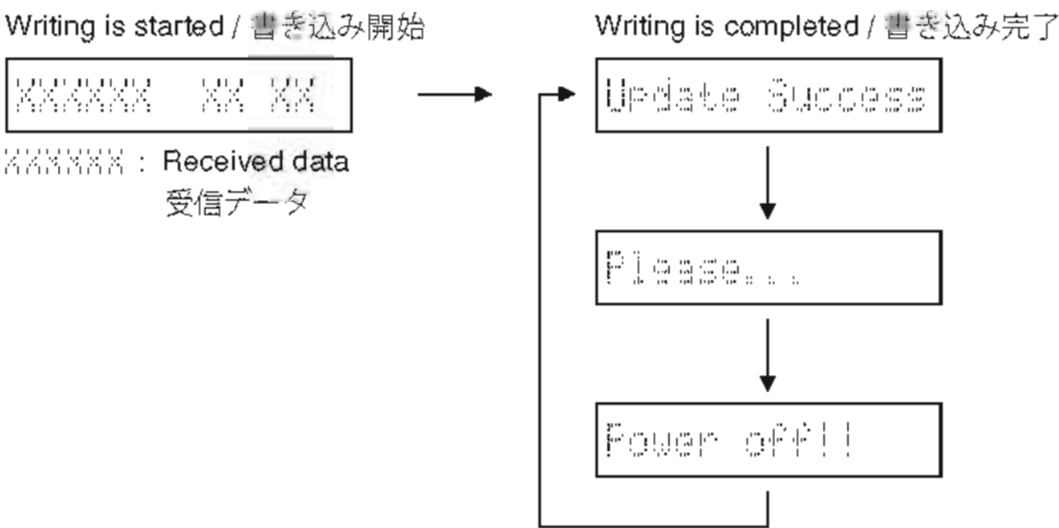

Fig. 3
Writing of the firmware starts automatically. (Fig. 3)
“Update Success”, “Please...” and “Power off!!” are displayed repeatedly (Fig. 3)
- 3. ファームウェアの書き込み完了後、“Update Success”、“Please...”、“Power off!!” が繰り返し表示されます。(Fig. 3)